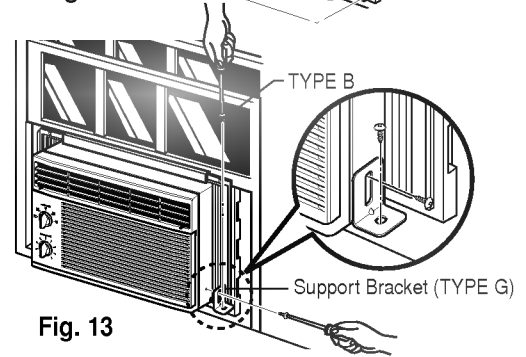

Fig. 13
- Fasten the support bracket (TYPE G) using a removed screw. Attach the support bracket (TYPE G) in the inner window sill with a screw (TYPE B), as shown in Fig. 13.